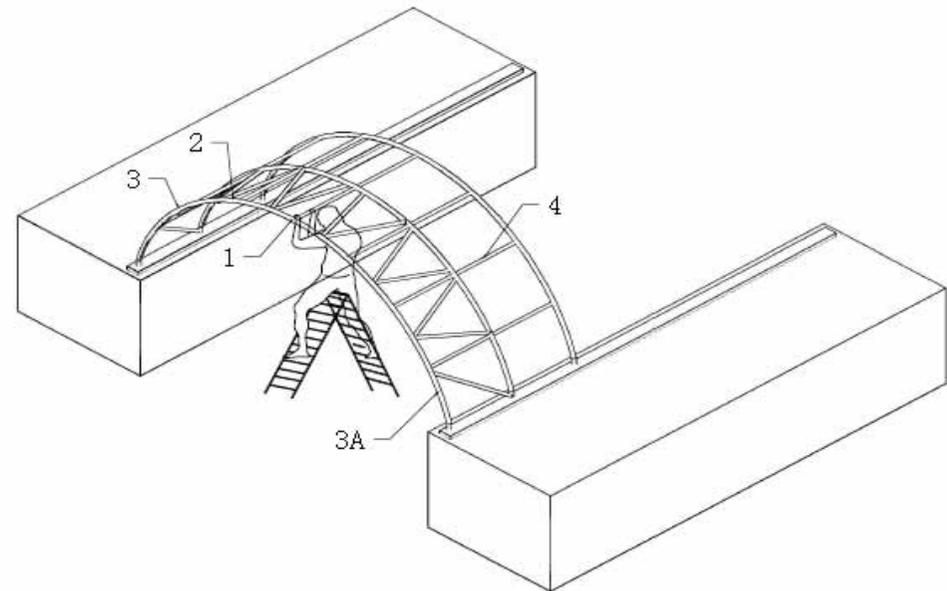

Figure 3
3. Cut 6 pockets according to the position of the base plates and put the Lower tensioning tubes for roof cover (part code 10) into the pocket of roof cover. Then use the Ratched straps (part code 9) to tie down the Lower tensioning tubes like the Figure 3. Finally install the ϕ 32 P lastic plug for base rail section (part code 19) into two end of the Lower tensioning tubes.